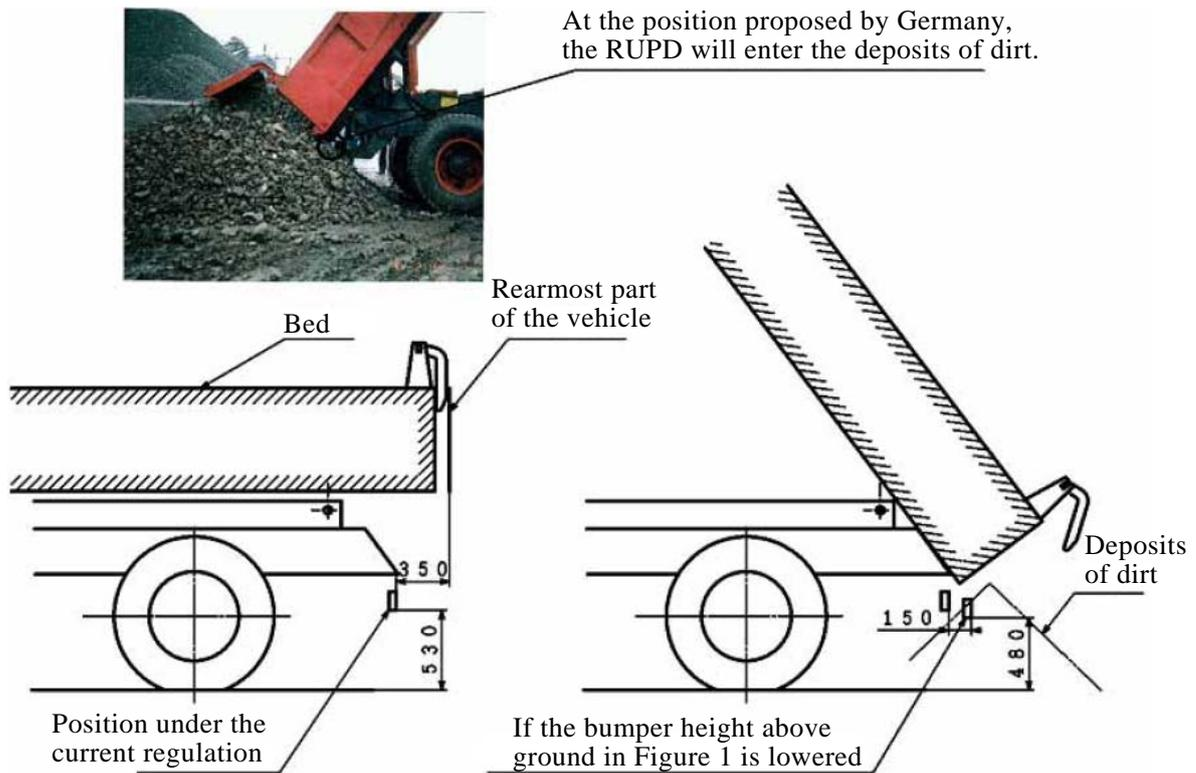

Figure 2 RUPD Entering the Deposits of Dirt at Dumping
2. If the bumper is lowered, the dumped deposits will push the RUPD and cause danger. It will also enter the deposits of dirt and cannot escape easily. (Figure 2)
3. The possibility of the dumped deposits damaging the RUPD will increase, which will raise the frequency of the vehicles running with the damaged RUPD, compromising safety. (Figure 2)